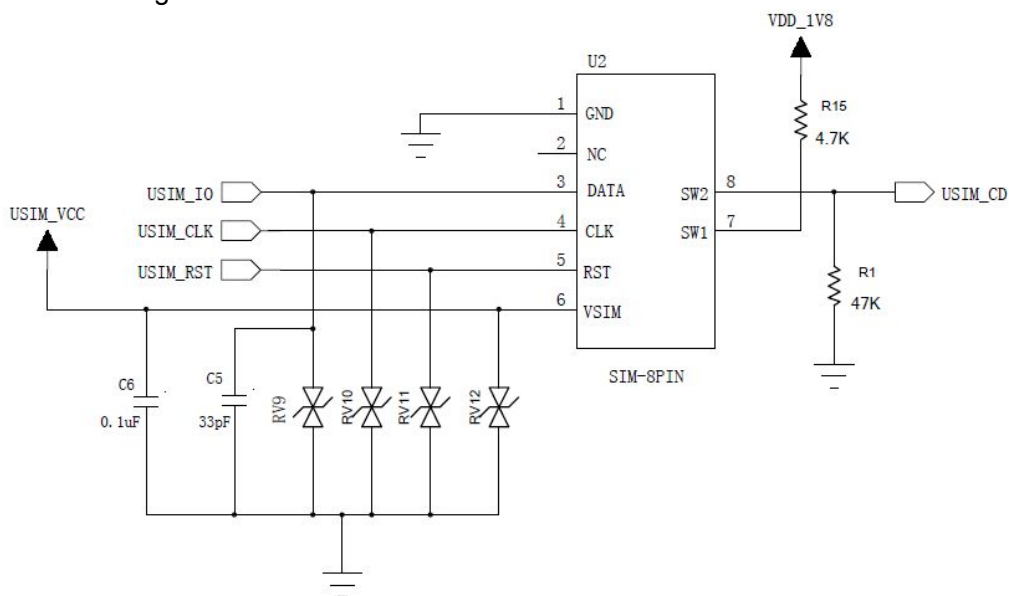

Figure 5-9 Reference Design of “Normally Open” SIM Card Interface
- For “Normal opened” SIM card, as shown in the figure5-9, USIM\_CD signal line is connected to U2's Pin8 (SW2), and Pin7 (SW1) will be pulled up 4.7K resistor . When the SIM card is not inserted, SW2 and SW1 will be disconnected, then SW2 will be at low level. When the SIM card is inserted, SW2 and SW1 will short circuit, USIM\_CD level will be pulled up.